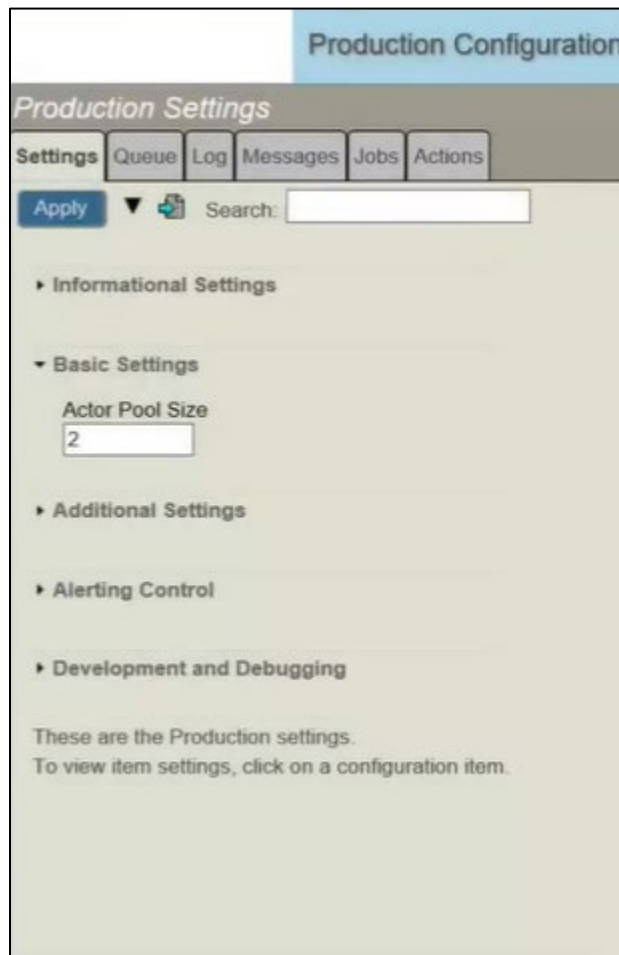

Figure 3-7: Productions Settings pane
1. From the **Production Configuration** page (see Section 2.0), go to the **Production Settings** pane and click on **Actions** (Figure 3-7).